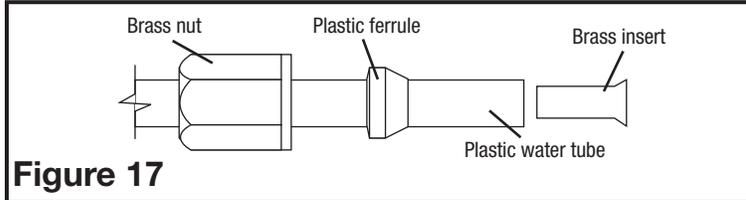

Figure 17
2. Prepare the end of the 1/4" tubing for water connection to the humidifier (All required hardware supplied in the saddle-valve kit in the installation package) (Figure 17).